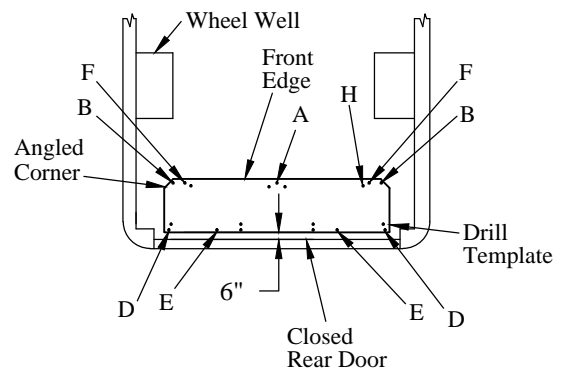

Figure 4: Drill template location (top view).
3. **Place** the drill template in the rear of the van (Figure 4):
12. **Place** the drill template in the rear of the van (Figure 4):